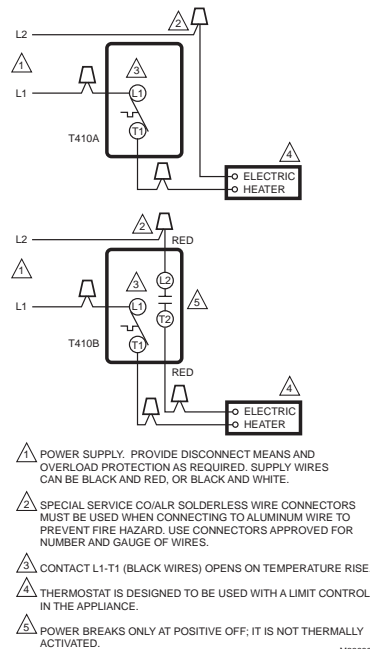

Fig. 1. T410A and T410B wiring diagrams.
1. Connect leadwire on the back of the thermostat to conductors from the heater and power source with solderless wire connectors approved for size and number of wires. (Use care when connecting to aluminum wire. See note 2 in Fig.1.)
See Fig. 1 to wire the thermostat.